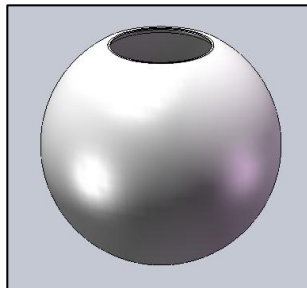

FIG. 4 ACRYLIC GLOBE
2. ACRYLIC GLOBE. (shown in FIG. 4)